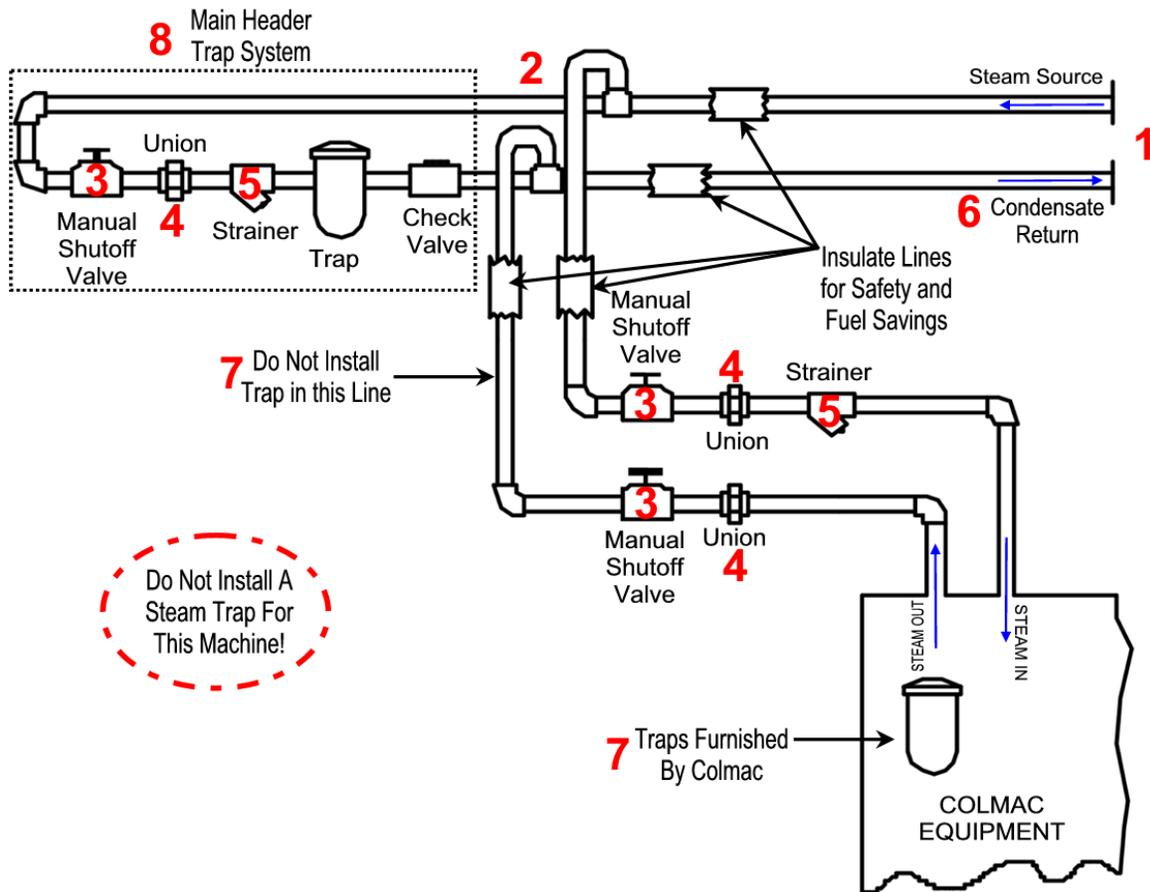

Figure 3
The steam and return system connections are very important. Poor steam quality or incorrect connections directly affect its performance. (Reference Figure 3)
2. **Supply Line:** Connect the steam line to the top of the steam headers as shown in Figure 3 to insure a clean, dry steam supply.